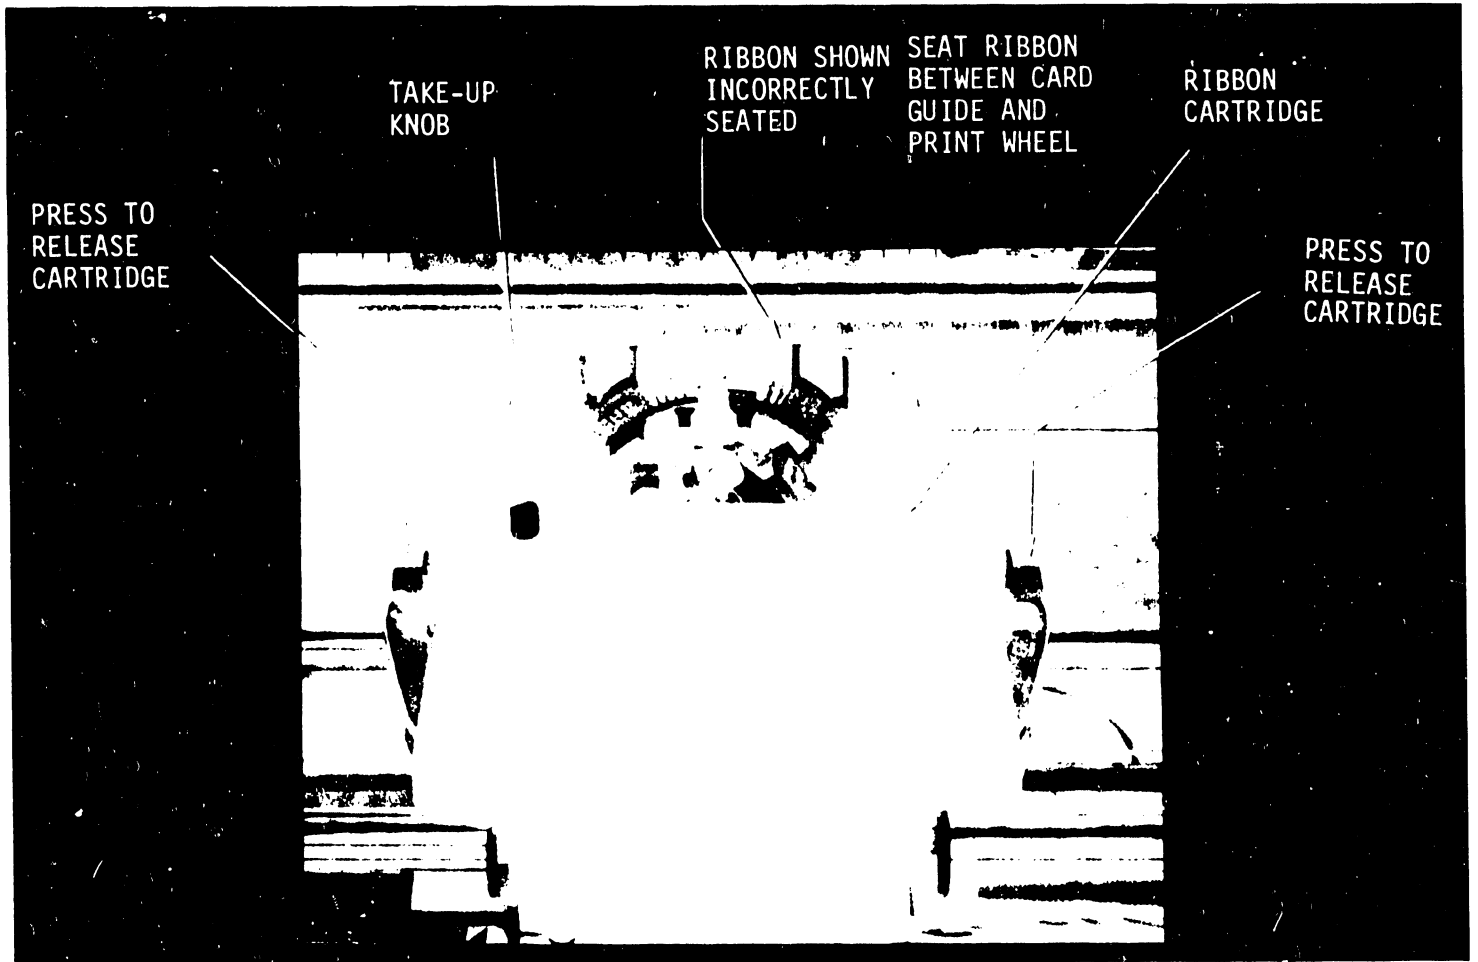

FIGURE 4-7 RIBBON CARTRIDGE REPLACEMENT
2. The cartridge is mounted and held on its platform by two latches. Pushing down on these latches releases the cartridge for removal. (See Figure 4-7.)